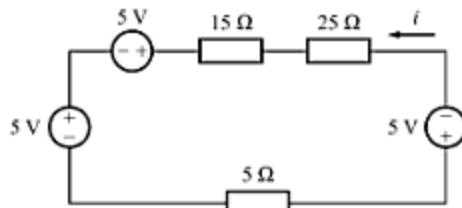

Fig. A-59
- A-10. Determine the current  $i$  in the circuit of Fig. A-59.